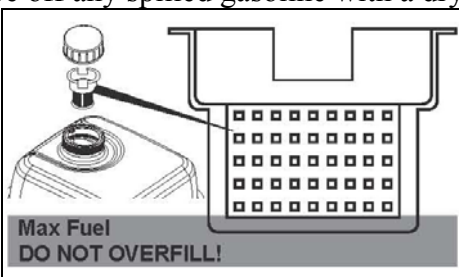

Figure 4
3. Slowly add unleaded gasoline to the fuel tank. Be careful not to overfill. The fuel tank capacity is 0.9 gallon. NOTE: **Do not fill the fuel tank to the very top.** (See Figure 4). Gasoline will expand and spill over during use even with the fuel cap in place.